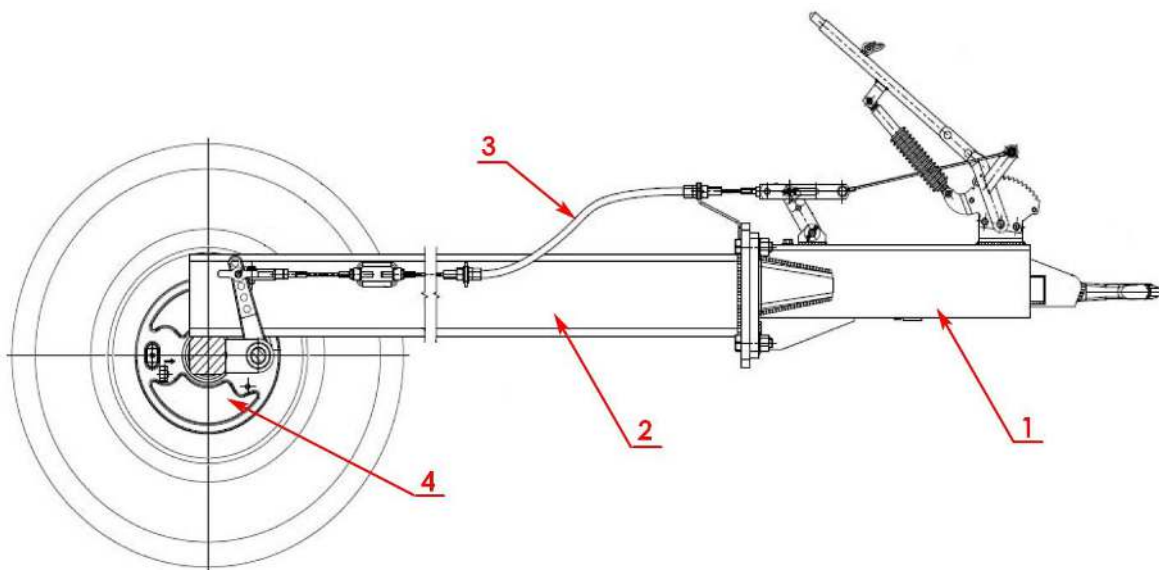

Fig. 12. Diagram of overrun brake system
The overrun brake (fig. 12) is engaged automatically during braking of the drawing vehicle. When the brake is engaged in the tractor, the trailer exerts pressure on the hitching point on the tractor due to inertia, which makes the drawbar's tension member move to the back of drawbar (1), putting tension on steel cord (3) connected to the expanders of driving axle (4), engaging the trailer's brakes. In the option with the overrun brake, the axle is equipped with a system preventing locking of wheels during the reversing maneuver.